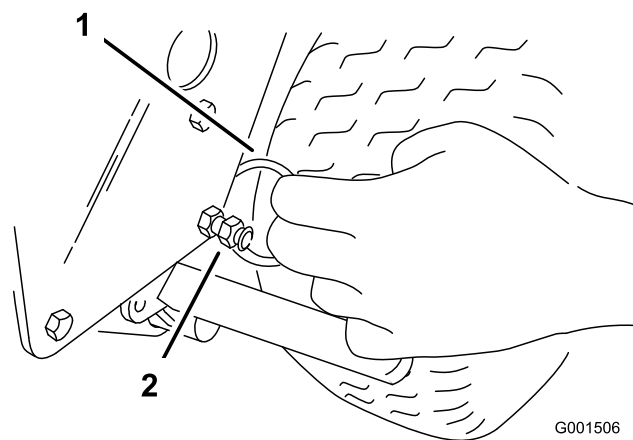

Figure 8
- Grasp split ring (Figure 8) on right side of machine, pull ring and chain straight out from side of machine and hook ring over control shield bolt.